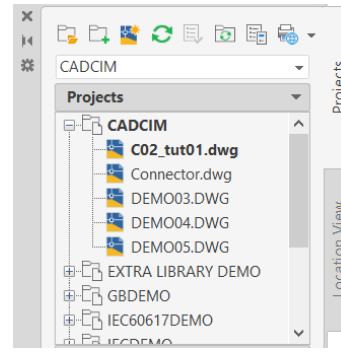

Figure 2-69 The **PROJECT MANAGER** displaying the **CADCIM** project with the *DEMO02.dwg* drawing replaced by the *Connector.dwg* drawing
3. Select the *Connector.dwg* drawing from this dialog box and choose the **Select** button; the **Apply Project Defaults to Drawing Settings** message box is displayed. Next, choose the **Yes** button; the *DEMO02.dwg* is replaced with the *Connector.dwg* drawing in the **CADCIM** project, as shown in Figure 2-69.